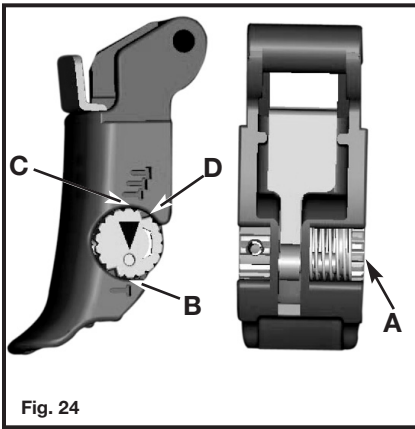
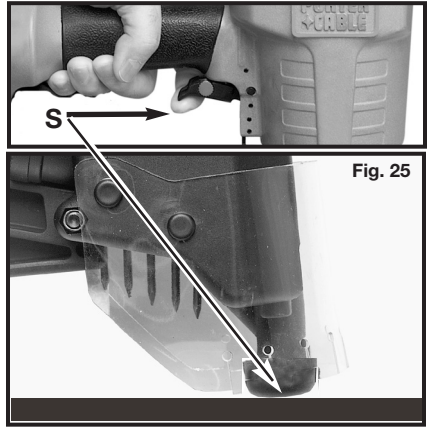

Fig. 24
Fig. 25
1. To use the tool in the **SINGLE SEQUENTIAL ACTUATION MODE** depress trigger lever pivot pin (A) Fig. 24, rotate arrow to position (B), and release. **Note:** Trigger lever pivot pin is spring loaded and held in position by locking tab (D) Fig. 24 to prevent movement during operation. To fire, grip tool firmly to maintain control, position nose of tool onto work surface, **push tool firmly against work surface to depress safety, as shown at (S) Fig. 25, and then squeeze trigger to fire a fastener.** Allow tool to recoil away from work surface as fastener is driven. This “**single sequential actuation**” method provides the most accurate fastener placement.
2. To use the tool in the **CONTACT ACTUATION MODE** depress trigger lever pivot pin (A) Fig. 24, rotate arrow to position (C), and release. **Note:** Trigger lever pivot pin is spring loaded and held in position by locking tab (D) Fig. 24 to prevent movement during operation. To fire, grip tool firmly to maintain control, **squeeze and hold trigger, push tool firmly against work surface to depress contact safety, as shown at (S) Fig. 25, and fire a fastener.** Allow tool to recoil away from work surface as fastener is driven. If safety element is allowed to recontact work surface before trigger is released an unwanted fastener will be fired. The tool will fire a fastener each time the contact safety is depressed. This method is known as “**contact actuation**” and allows very fast repetitive fastener placement.